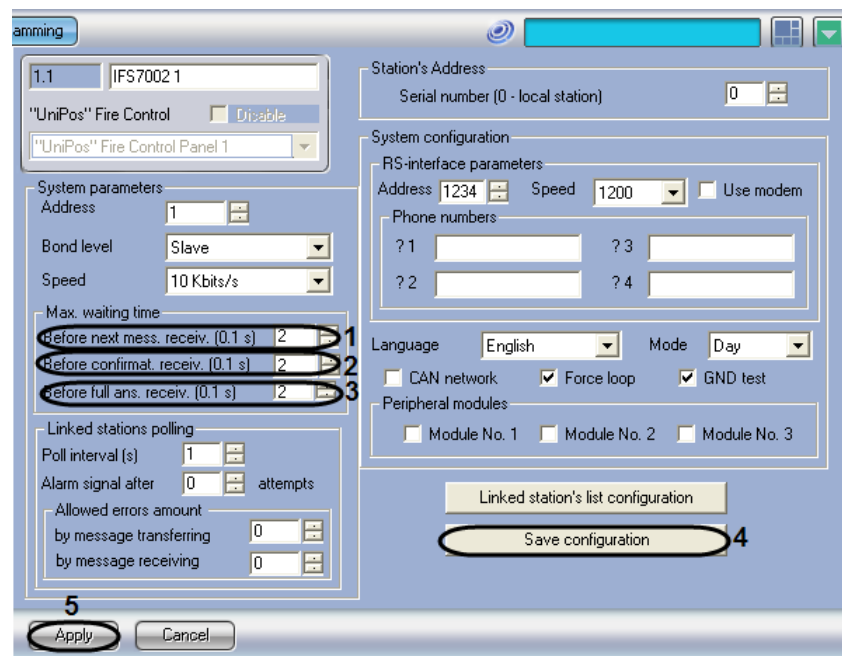

Fig. 3.3—8 Configuring the maximum waiting time for messages
1. Go to the settings panel of the “IFS7002” object (Fig. 3.3—8).
2. Enter the max. waiting time of the FCP for the next bit of the message from a FSA system component into the “Before next mess. receiv.” field (see Fig. 3.3—8, 1).
3. Enter the max. waiting time of the FCP for receipt confirmation from a FSA system component into the “Before confirmat. receiv.” field (see Fig. 3.3—8, 2).